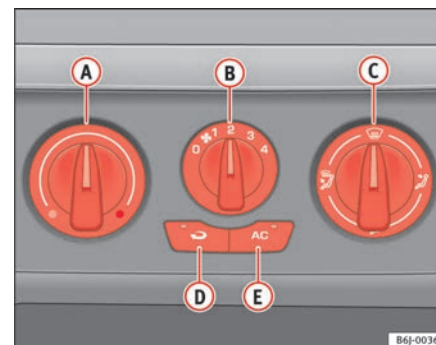

Fig. 90 Air conditioning controls on the instrument panel
- Using the controls ⇒ fig. 90 **A** and **C** and with the switch **B** you can adjust the temperature, the air distribution and the blower speed.
- Close outlets ③
- Open and turn outlets ④ towards side windows